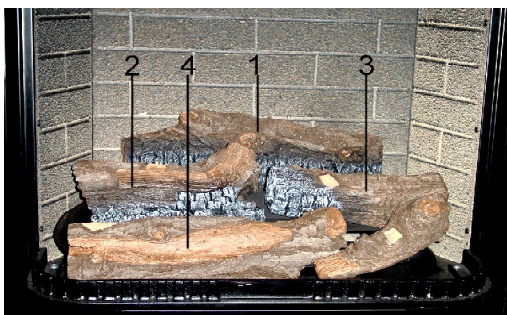

Figure 7
- Fasten decorations logs.4 onto the correspondent angle iron in front of fixbox.(see figure 7)